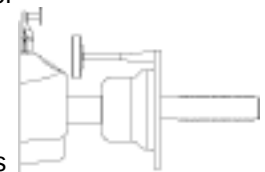

Figure 3-5
5. When rotation stops, the number two (2) will be displayed on right LED. Lift wheel guard and, using the threaded hole, attach factory Calibration Weight on inside of flange plate, (Figure 3-5)